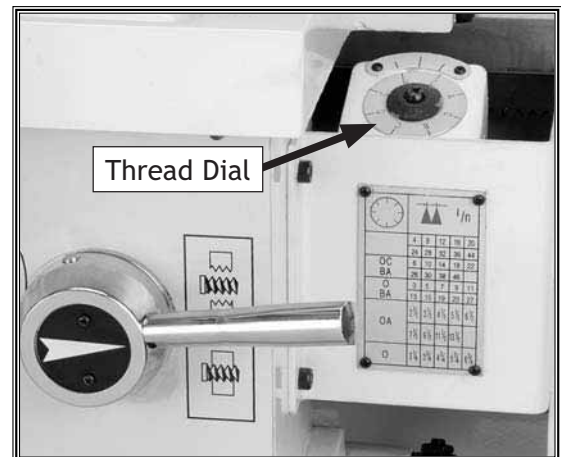

Figure 60. Thread dial chart.
7. Refer to the dial chart (**Figure 60**), and read the three conditions listed below to determine whether to use the half nut lever for threading operations: